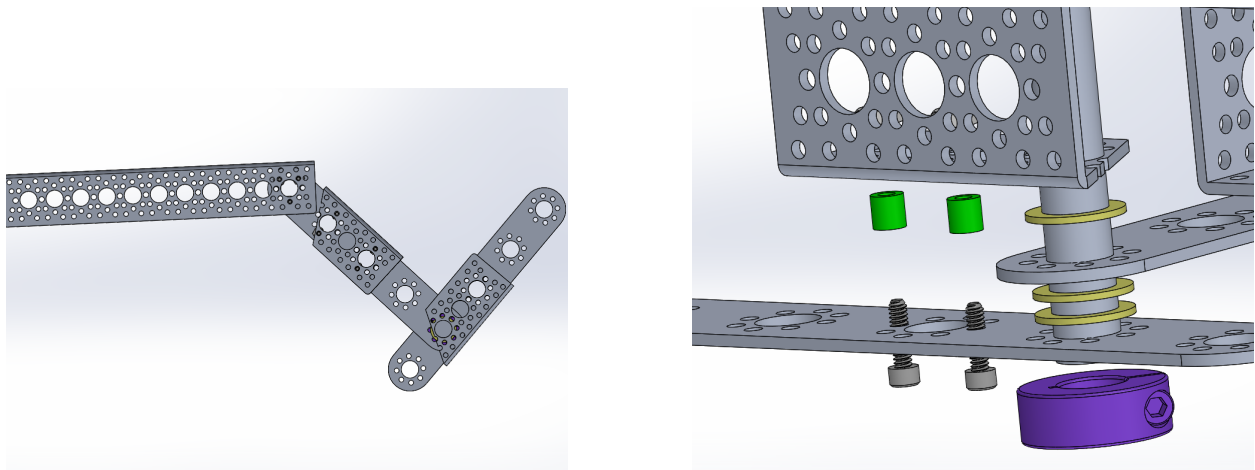

Figure 4: Start Rocker-Bogie pivot joint
that the cut modification in **S2A** is angled towards the 9 inch channel as shown in Figure 4.
2. **Start the Bogie pivot joint:** Put rod **S18A** through the last hole in the pattern F bracket. Then, assemble the pivot joint by attaching another modified 3 inch channel **S2A** and another pattern F bracket using washers **W3**, collar clamp **S22**, standoffs **T2**, and screws **B3**. Make sure to use the 2nd from the bottom hole on the 2nd pattern F bracket. See Figure 4: